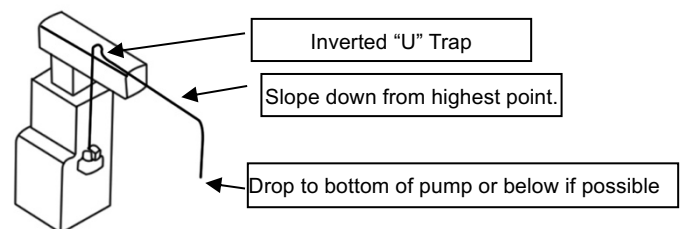

Figure 4
1. Run flexible tubing or pipe from the evaporator drain into one of the three pump inlets. Be sure inlet piping is sloped downward to allow gravity flow (Figure 4). Extend the inlet piping into the tank from 1 to 3 inches to ensure that it will not interfere with proper float operation. Be sure that the inlet piping is cut at an angle where it enters the tank.